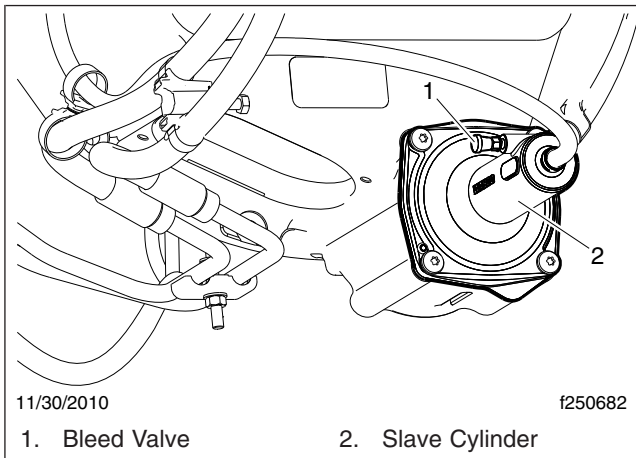

Fig. 7, Slave Cylinder, Hydraulic Clutch Control
- 4.2 Remove the cap from the bleed valve of the slave cylinder. See Fig. 7. On the valve, install a transparent drain hose connected to a catch bottle. The hose needs to fit the bleed valve tight enough so it does not fall off when fluid is pumped out.
3. Remove the cap from the bleed valve of the slave cylinder. See Fig. 7. On the valve, install a transparent drain hose connected to a catch